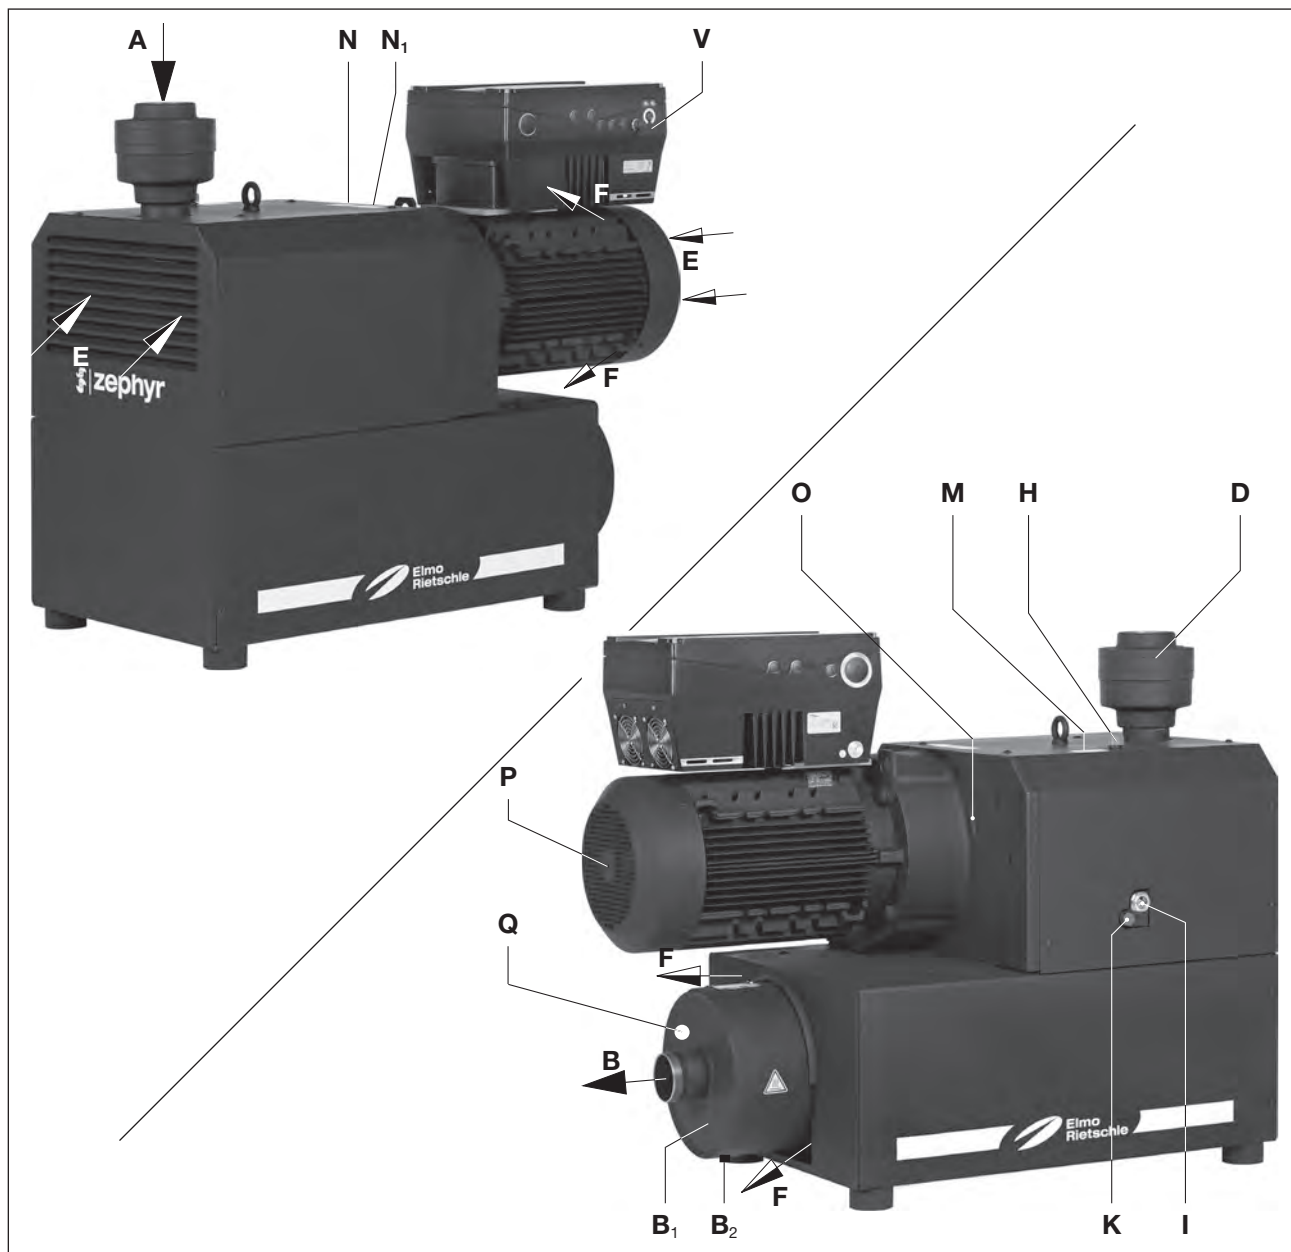

Fig. 2 Vacuum pump C-VLR 401 and C-VLR 501
- the machine must only be operated at speed and frequency range according to the data plate (Fig. 2/N1)
The C-VLR 401 and C-VLR 501 model has a connection flange on the inlet side and an exhaust silencer on the pressure side (Fig. 2/B1). The air sucked in is cleaned by a micro-filter. An non-return valve (Fig. 2/D) prevents the evacuated system from being ventilated after the pump has stopped.
The gearbox and the compression chamber are separated from each other by special seals. The gearbox is sealed from the outside with shaft seals and O rings, the compressor chamber with piston rings. The VLR 401 and VLR 501 are enclosed in an insulating hood. In order to dissipate compression heat, the cooling air is sucked through between the machine and the hood using a drum fan that sucks in the fresh cooling air (Fig. 2/E) and discharges the heated air out of the cooling air outlet (Fig. 2/F).
Three-phase motor with integral frequency converter (Fig. 2/V) makes possible infinitely variable control of the speed.
The oil filling point (Fig. 2/H), oil sight glass (Fig. 2/I) and the oil outlets (Fig. 2/K) must be easily accessible. The cooling air inlets (Fig. 2/E) and the cooling air outlets (Fig. 2/F) must be at least 30 cm away from adjacent walls. Cooling air coming out must not be sucked in again.
- a) Vacuum connection at (Fig. 2/A).
- c) The extracted air can be discharged through the exhaust silencer (Fig. 2/B) or conducted away via a pipe.
- a) Fill the lubricating oil (for suitable types see "Maintenance") for the gear wheels and oil filling point (Fig. 2/H) up to the middle of the sight glasses (Fig. 2/I).
- b) Connect the frequency converter (Fig. 2/V) according to the operating instructions 610.00260.40.000 or with the attached connection diagram. For the observance with the protection class IP 65 shall be provided suitable cable glands resp. shutters. The electric network connection values are to be taken from the type label of the frequency converter.
When the machine is at operating temperature the surface temperatures on the components (Fig. 2/ Q) may go above 70°C.